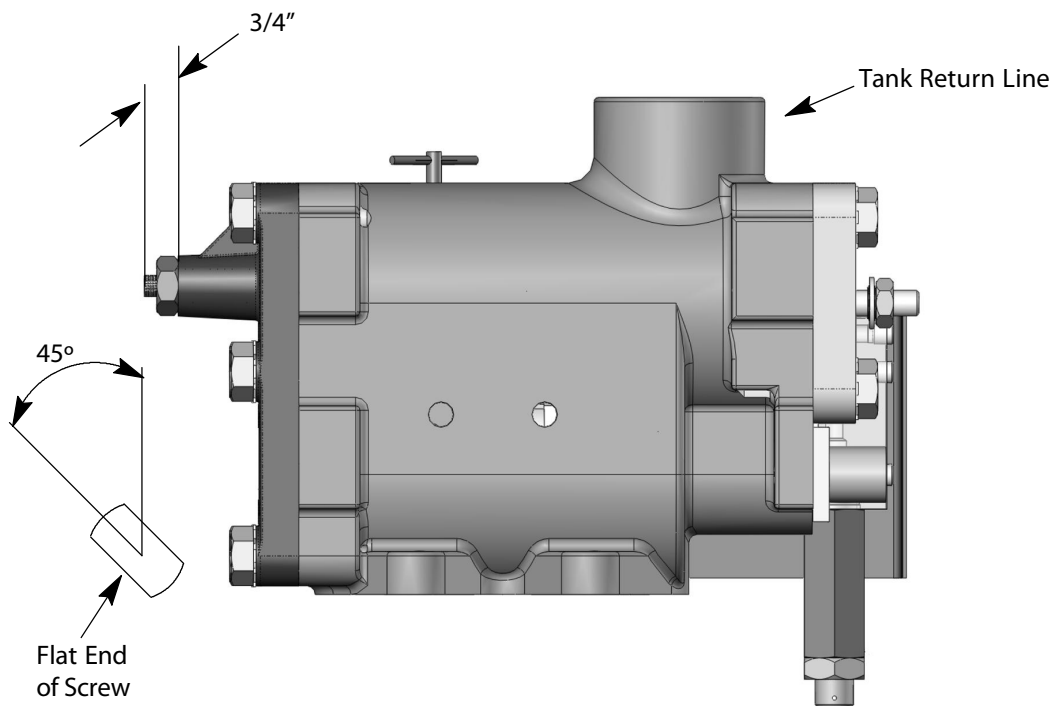

Figure 3 - Lowering and Leveling Speed Setting
1. With the car set on the buffers, adjust the lowering and leveling screw so that 3/4" extends beyond the valve body. See Figure 3.